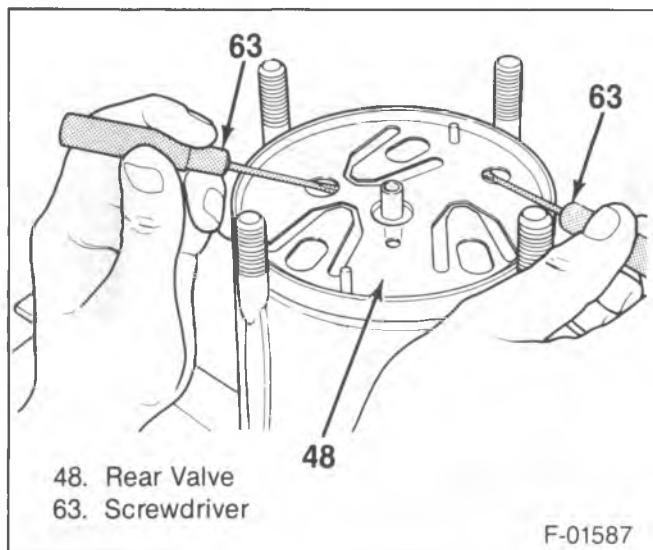

Figure 20—Removing the Rear Suction Reed Plate
- 7. Rear suction reed plate (48) (figure 20).